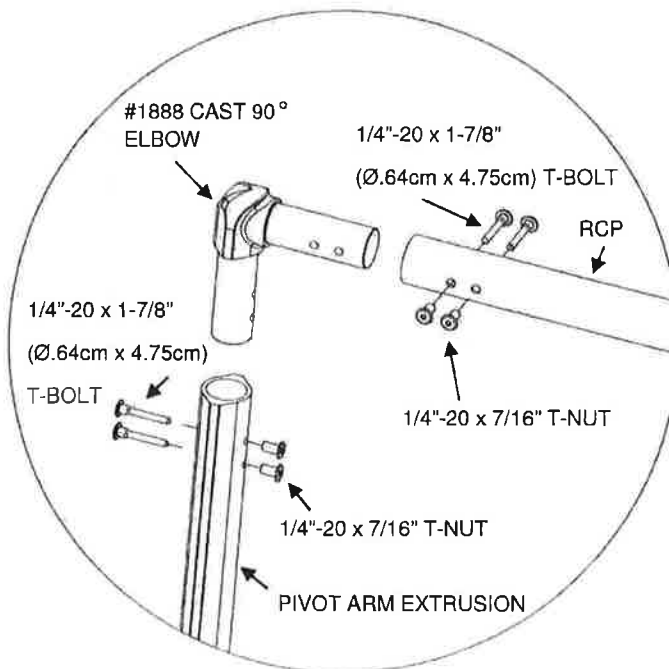

FIGURE 7B
- Mark extruded arms and rear cross bar and drill 3/8" (Ø1cm) holes to align with holes in each cast 90° elbow. (See fig. 7B)